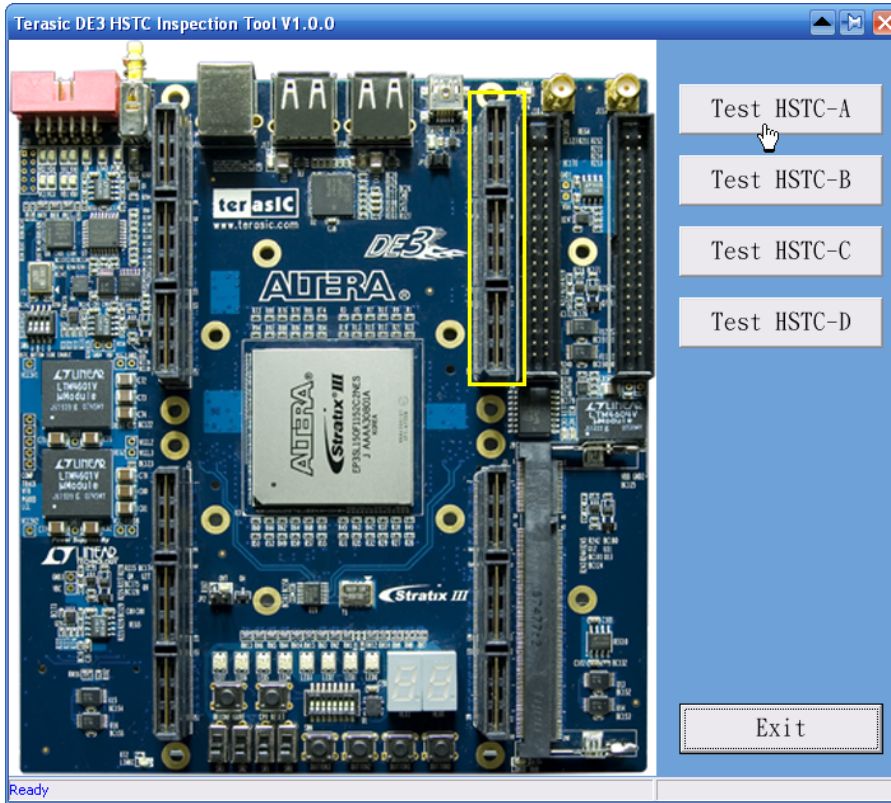

Figure D.3. The DE3_HSTC utility
6. In the **DE3_HSTC** utility window, press "**Test HSTC-A**" button to start testing the HSTC connector A as shown in Figure D.3.